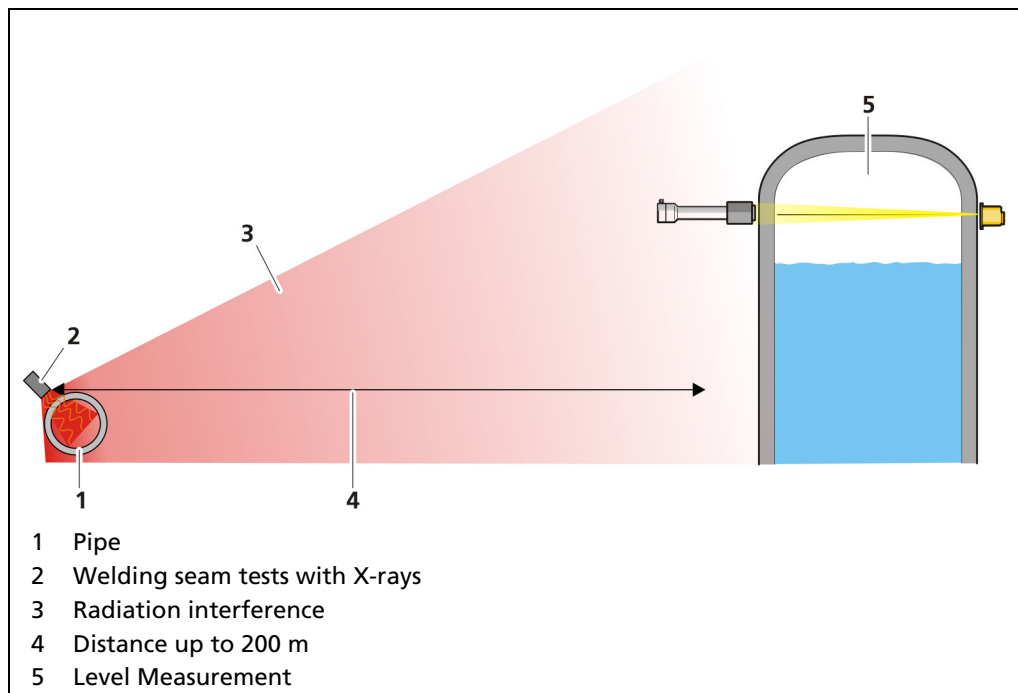

Fig. 79 Radiation interference during a weld inspection
This function allows you to take radiation interference (for example x-rays) into consideration. Measurement jumps that influence the process can arise through radiation interference. Only rapid count rate increases are considered. If detection (Fig. 79, item 1) is activated, the last valid measured value is frozen.